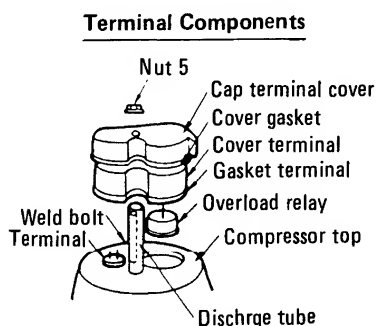

Fig. D-13
- 2) Remove the cabinet according to the disassembly procedure of the outdoor unit. Refer to Page 69. Furthermore remove the terminal cover at the top of the compressor and remove the wiring of the overload relay and the compressor terminal. Fig. D-13.